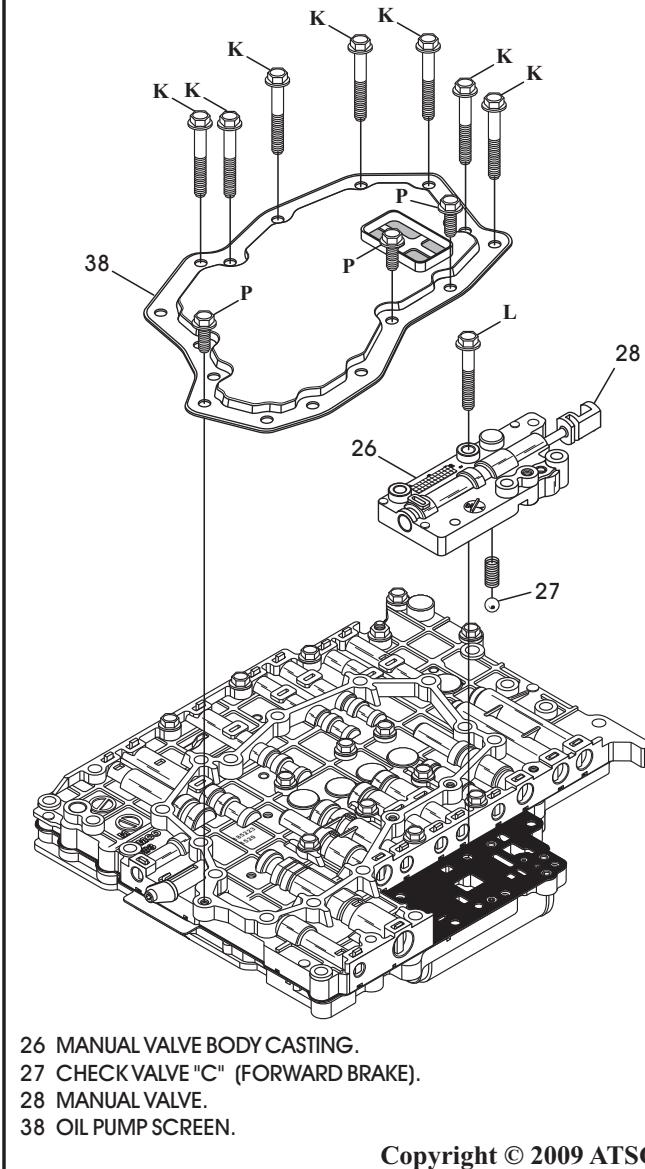

Figure 167
13. Remove the three hex head bolts identified with the letter P from the filter, as shown in Figure 167.
14. Remove the seven hex head bolts identified with the letter K from the filter, as shown in Figure 167, and remove the filter.
15. Remove the hex head bolt identified with the letter L from the manual valve body, as shown in Figure 167, and remove manual valve body. **Note: Use care when removing so as not to drop the check valve "C" and spring.**